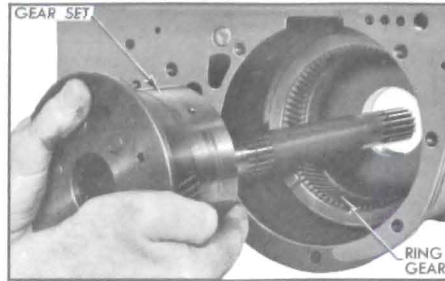

Figure 5-41—Removing Planetary Gear Set
1. Remove planetary gear set through front of case. See Figure 5-41.